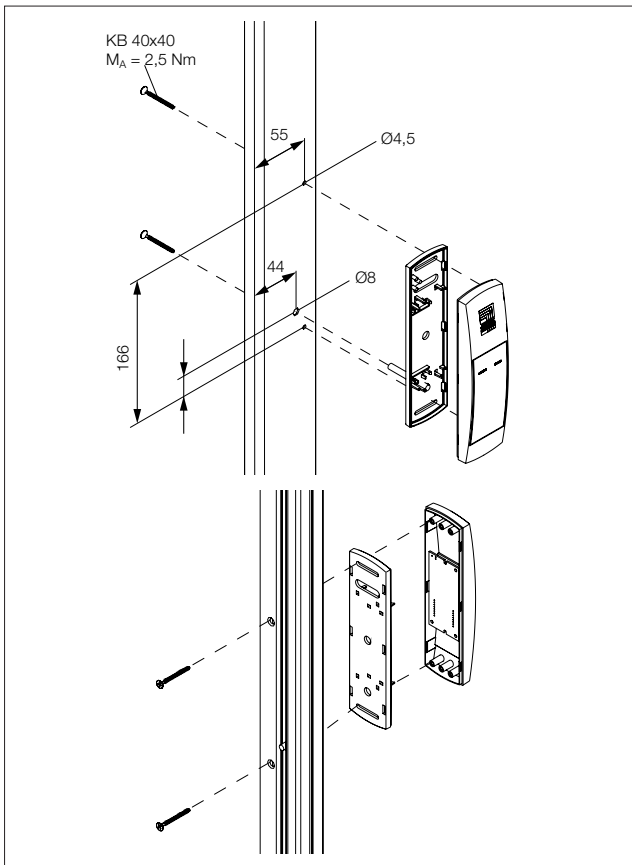

Fig. 3: VX glazed door installation
- Drill suitably sized holes at the required part of the frame of the VX glazed door (Fig. 3).